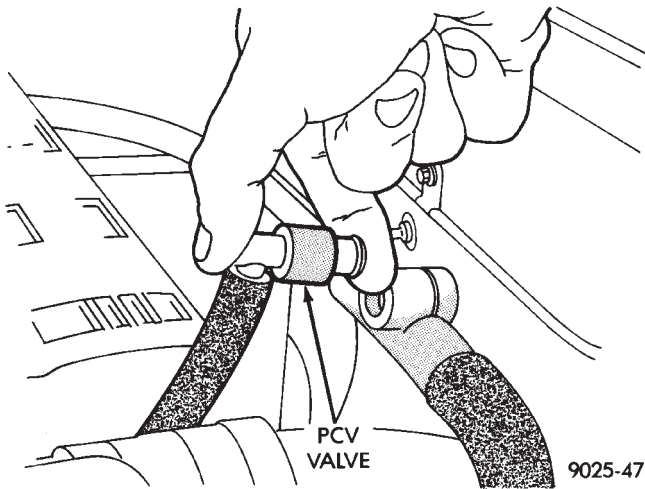

Fig. 17 PCV Valve Test
- (1) Verify that fiber crankcase filter is clean and properly installed in the air cleaner assembly.
- (2) With the engine running at idle, remove crankcase inlet hose from the inlet filter nipple. Position a 50 mm (2 in.) square paper card over end of inlet hose. The card should be drawn to the end of the inlet hose within 15 seconds. If not, a leak or restriction exists in the PCV vacuum circuit.
- (3) If card does not hold to end of inlet hose, disconnect PCV valve from cylinder head cover or adapter. Vacuum hissing sound should be heard and engine should run steady. Place a finger over end of PCV valve (Fig. 17). The check valve in the PCV valve should click and rattle when PCV valve is shaken.
- (4) Remove PCV valve from vacuum source hose. The engine should run very erratically or stall. If not, a vacuum restriction or blockage exists at the vacuum source.